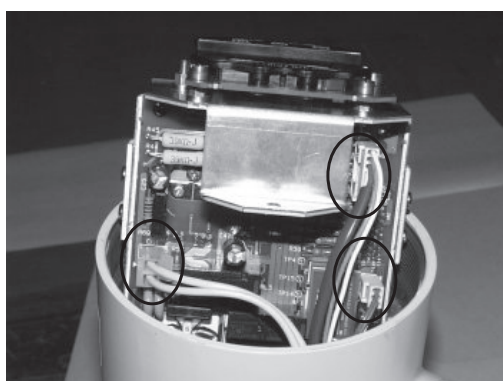

Figure 11.7 Locations of Connectors
- (4) Disconnect the three connectors from the printed-circuit board, as shown in Figure 11.7, by holding the connector housing. Do not pull the leadwire out to remove the connectors, otherwise, disconnection may result.